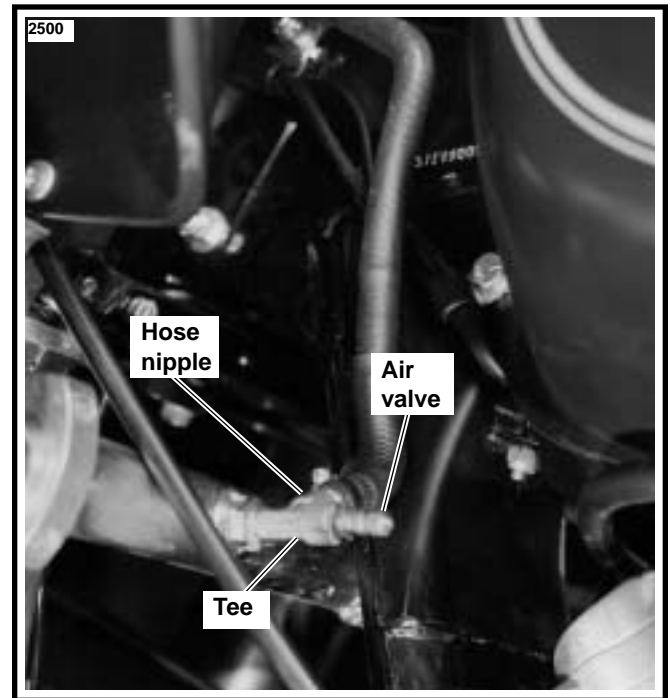

Figure 2. Rerouted Air Suspension Valve
Rerouting Air Suspension Hose (Figure 2)
10. See Figure 2. Route hose up along frame and forward to solenoid valve.